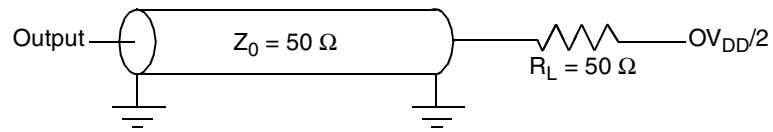
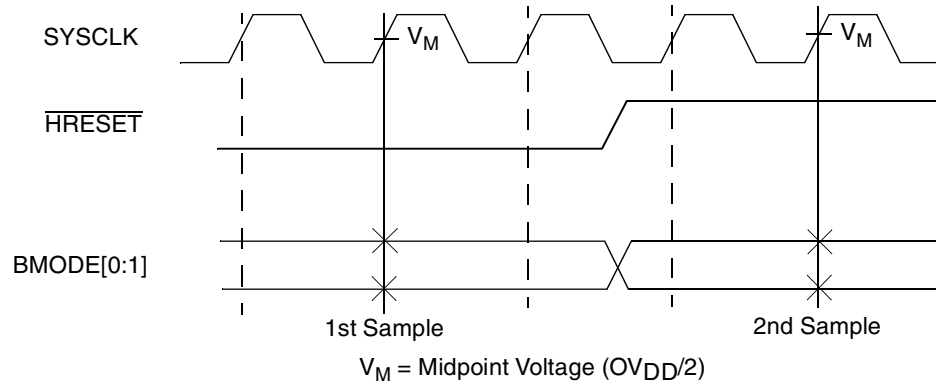
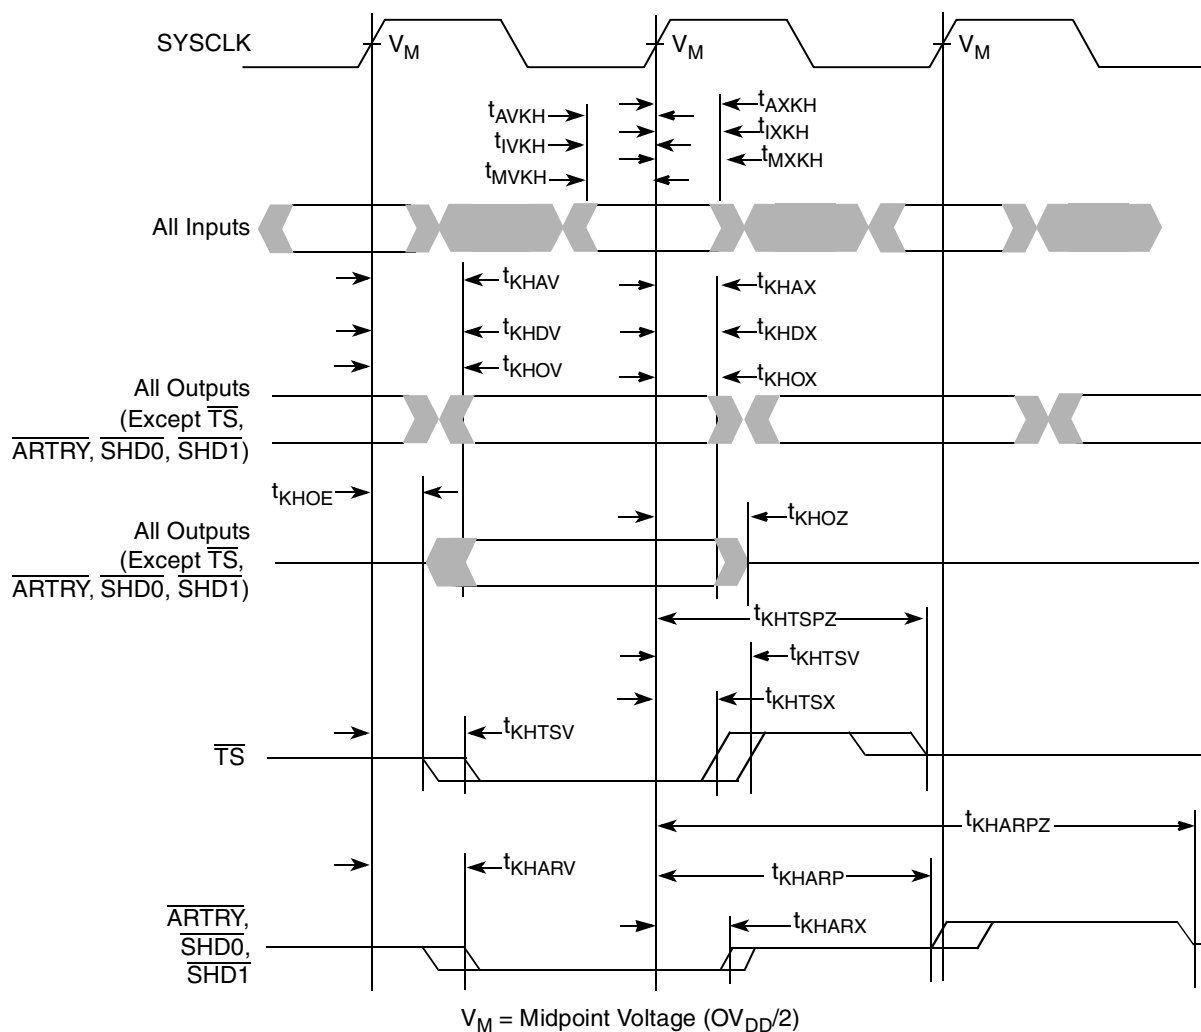

Figure 4. AC Test Load
Figure 5. $\overline{BMODE}[0:1]$ Input Sample Timing Diagram
Figure 6. Input/Output Timing Diagram
Table 9 provides the processor bus AC timing specifications for the MPC7448 as defined in Figure 4 and Figure 5.
1. All input specifications are measured from the midpoint of the signal in question to the midpoint of the rising edge of the input SYSCLK. All output specifications are measured from the midpoint of the rising edge of SYSCLK to the midpoint of the signal in question. All output timings assume a purely resistive 50-Ω load (see Figure 4). Input and output timings are measured at the pin; time-of-flight delays must be added for trace lengths, vias, and connectors in the system.
2. The symbology used for timing specifications herein follows the pattern of $t_{(\text{signal})(\text{state})(\text{reference})(\text{state})}$ for inputs and $t_{(\text{reference})(\text{state})(\text{signal})(\text{state})}$ for outputs. For example, t_{VKH} symbolizes the time input signals (I) reach the valid state (V) relative to the SYSCLK reference (K) going to the high (H) state or input setup time. And t_{KHOV} symbolizes the time from SYSCLK(K) going high (H) until outputs (O) are valid (V) or output valid time. Input hold time can be read as the time that the input signal (I) went invalid (X) with respect to the rising clock edge (KH) (note the position of the reference and its state for inputs) and output hold time can be read as the time from the rising edge (KH) until the output went invalid (OX).
4. According to the bus protocol, $\overline{\text{TS}}$ is driven only by the currently active bus master. It is asserted low and precharged high before returning to high impedance, as shown in Figure 6. The nominal precharge width for $\overline{\text{TS}}$ is t_{SYSCLK} , that is, one clock period. Since no master can assert $\overline{\text{TS}}$ on the following clock edge, there is no concern regarding contention with the precharge. Output valid and output hold timing is tested for the signal asserted. Output valid time is tested for precharge. The high-impedance behavior is guaranteed by design.
6. According to the bus protocol, $\overline{\text{ARTRY}}$ can be driven by multiple bus masters through the clock period immediately following $\overline{\text{AACK}}$. Bus contention is not an issue because any master asserting $\overline{\text{ARTRY}}$ will be driving it low. Any master asserting it low in the first clock following $\overline{\text{AACK}}$ will then go to high impedance for a fraction of a cycle, then negated for up to an entire cycle (crossing a bus cycle boundary) before being three-stated again. The nominal precharge width for $\overline{\text{ARTRY}}$ is $1.0 t_{\text{SYSCLK}}$; that is, it should be high impedance as shown in Figure 6 before the first opportunity for another master to assert $\overline{\text{ARTRY}}$. Output valid and output hold timing is tested for the signal asserted. The high-impedance behavior is guaranteed by design.
8. $\overline{\text{BMODE}}[0:1]$ and $\text{BVSEL}[0:1]$ are mode select inputs. $\overline{\text{BMODE}}[0:1]$ are sampled before and after $\overline{\text{HRESET}}$ negation. $\text{BVSEL}[0:1]$ are sampled before $\overline{\text{HRESET}}$ negation. These parameters represent the input setup and hold times for each sample. These values are guaranteed by design and not tested. $\overline{\text{BMODE}}[0:1]$ must remain stable after the second sample; $\text{BVSEL}[0:1]$ must remain stable after the first (and only) sample. See Figure 5 for sample timing.
Figure 4 provides the AC test load for the MPC7448.
Figure 5 provides the $\overline{BMODE}[0:1]$ input timing diagram for the MPC7448. These mode select inputs are sampled once before and once after $\overline{HRESET}$ negation.
Figure 6 provides the input/output timing diagram for the MPC7448.